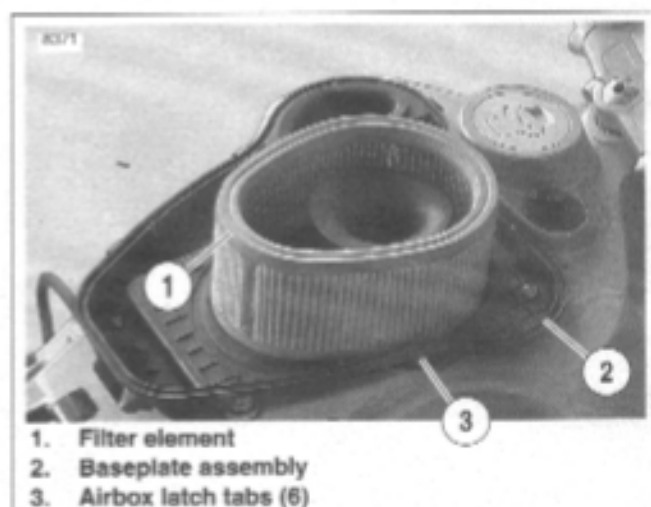

Figure 1-47. Installed Air Cleaner Filter Element
5. See Figure 1-47. Remove the filter element (1) from baseplate (2). Inspect and replace if necessary.
1. See Figure 1-47. Place filter element (1) on baseplate (2).